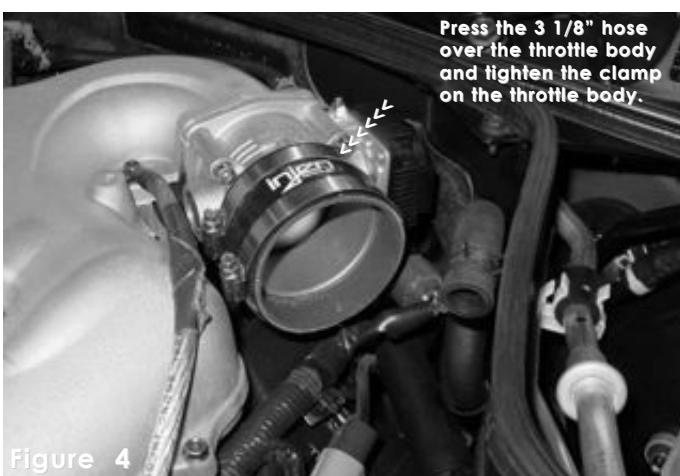

Figure 4
4. Take the remaining 3 1/8" straight hose and press it over the throttle body and use two clamps, tighten the clamp on the throttle body only. (See fig. 4)